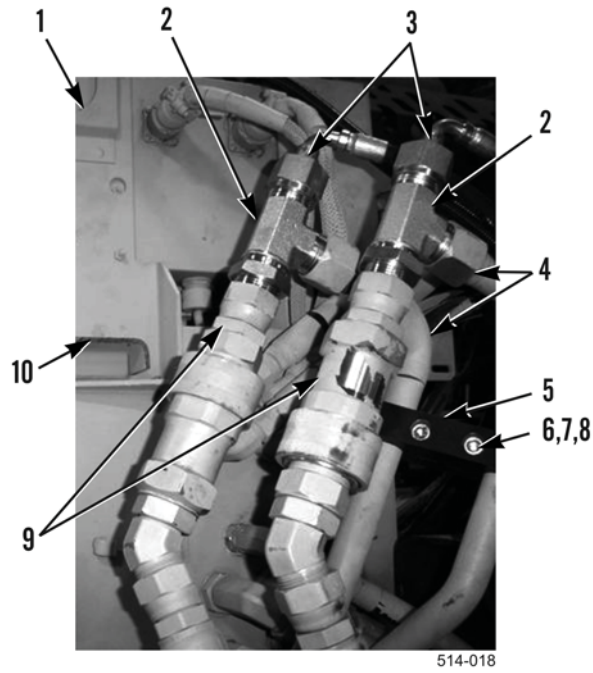

Figure 9. HEMTT A4 Hydraulic Hoses.
20. Cut bracket (Figure 9, Item 10) from hydraulic control box (Figure 9, Item 1).
21. Install two quick disconnect coupler fittings (Figure 9, Item 9) on T-fittings (Figure 9, Item 2).
22. Install two tube end reducers (Figure 9, Item 3) on T-fittings (Figure 9, Item 2).
23. Install two hoses (Figure 9, Item 4) on T-fittings (Figure 9, Item 2).
24. Loosely install two hoses (Figure 9, Item 4) on control box (Figure 9, Item 1), and rotate hoses approximately 45° clockwise.
25. Install fairlead (Figure 9, Item 5), two bolts (Figure 9, Item 6), washers (Figure 9, Item 7), and locknuts (Figure 9, Item 8) on two hoses (Figure 9, Item 4).
26. Tighten two hoses (Figure 9, Item 4) on hydraulic control box (Figure 9, Item 1).